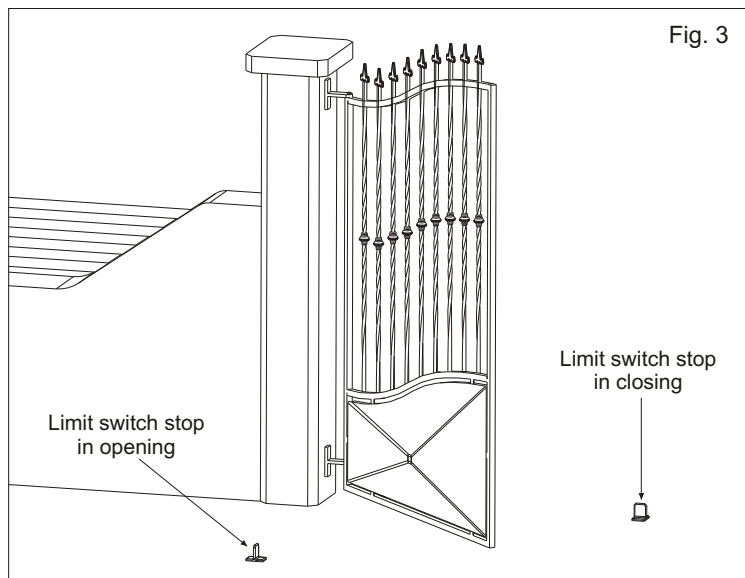

Fig. 3
E. as the limit switches are not provided within the actuator, it is necessary to install mechanical limit switches stops to be fixed to the ground in closing and in opening (Fig. 3).